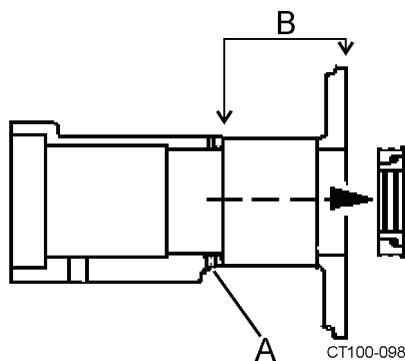
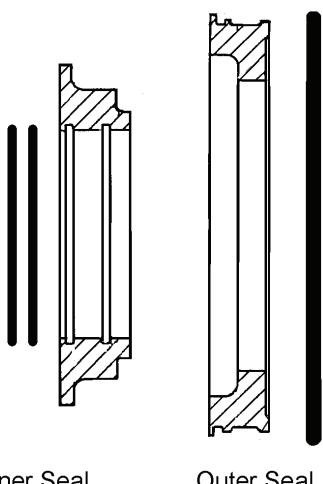
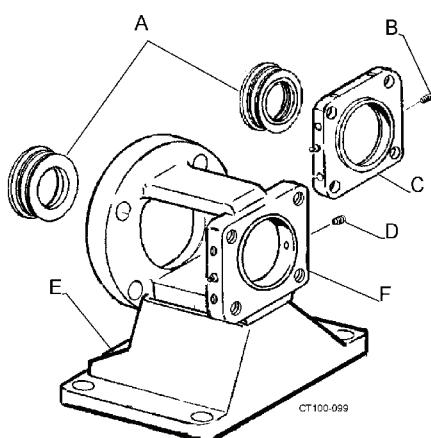

Figure 50 - Remove Set Screws
Figure 51 - Seal Configuration
Figure 52 - Outer Seal Assemblies
For Style C: Remove the stand/housing assembly, than remove end cap. (Figure 52, item C on page 42).
1. Using a 1/8" hex wrench, loosen the set screws (Figure 50, item A).
2. Remove the impeller end of the bearing housing. (Figure 50, item B).
3. Remove the outer seal ring assemblies (the inner seal ring and o-rings). See Figure 50 and Figure 51.
NOTE: Figure 51 shows the seal position at the motor end. Seals at the pump end face inward. Make sure to tighten the set screws when installing the outer seal assemblies. See Figure 52.